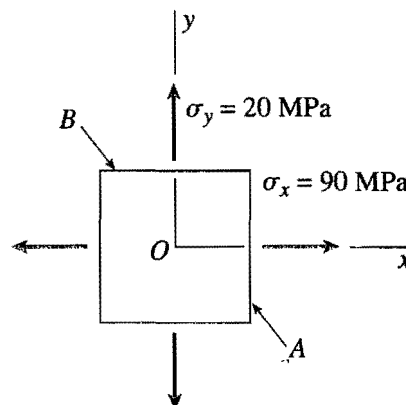

Fig. 3
3. At a point on the surface of a pressurized cylinder, the material is subjected to biaxial stress $\sigma_x = 90$ MPa and $\sigma_y = 20$ MPa, as shown on the stress element of Fig. 3. Using Mohr's circle, determine the stresses acting on an element inclined at an angle $\theta = 30^\circ$. Consider only the in-plane stresses, and show the results on a sketch of a properly oriented element. (20 %)